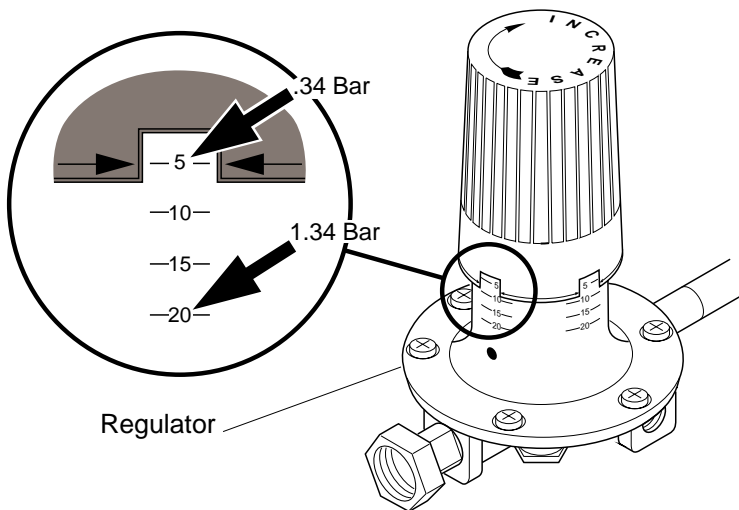

Figure 7 - Adjustable Regulator Set At .34 Bar
5. Adjust regulator between .34 and 1.34 bar (see Figure 7). *Note:* Higher regulator setting will allow heater to produce more heat.